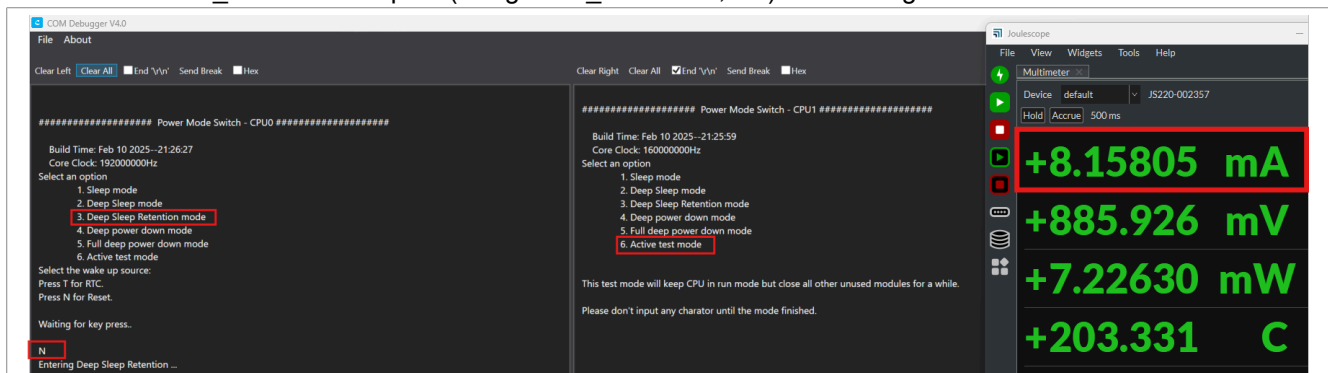

Figure 24. Logs from CPU0 and CPU1 com ports and the power number of VDD1
12. Measure the JP3 current on the MIMXRT700-EVK board. Figure 24 shows the power number of VDD1. If you need a more accurate measurement, see step 15 of Section 2.1.1.